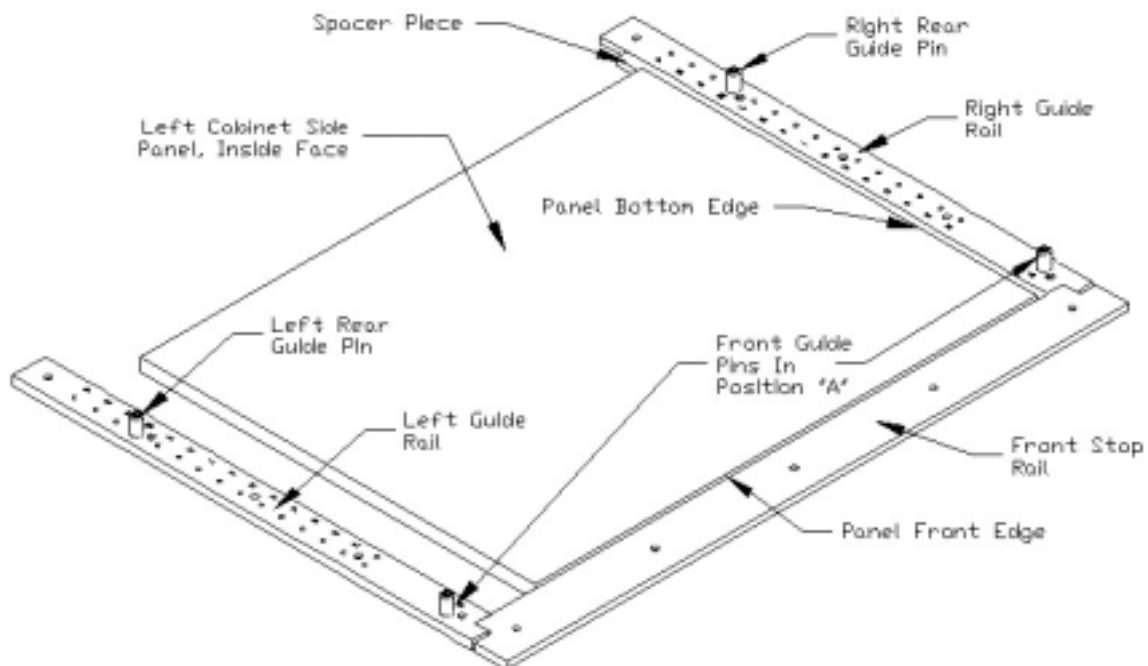

Figure 26
The following steps covers the hole boring of "unbalanced" base cabinet side panels that follow the Blum system hole pattern. Notice the use of a 17.5 mm wide spacer piece, as shown in Figure 26, between the right guide-rail and the bottom edge of the work-piece. This is to adjust the position of the first hole to be 46.5 mm up from the bottom edge of the cabinet side. For more information on using spacers, please refer to page 4.
2. Place the "left" side panel (work-piece) into the Euro 32 Hole Boring System so that the bottom edge is placed against the "right" guide-rail and the front edge (banded edge) is tightly against the front stop-rail as shown in Figure 26.